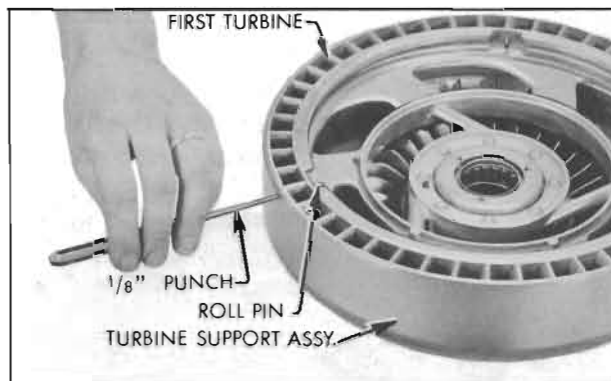

Figure 5-40—Driving in First Turbine Support Pins
1. Drive the three roll pins holding the first turbine blades to the turbine support "in" approximately  $\frac{1}{4}$ " using a  $\frac{1}{8}$ " punch. It is not necessary to remove the pins. See Figure 5-40.